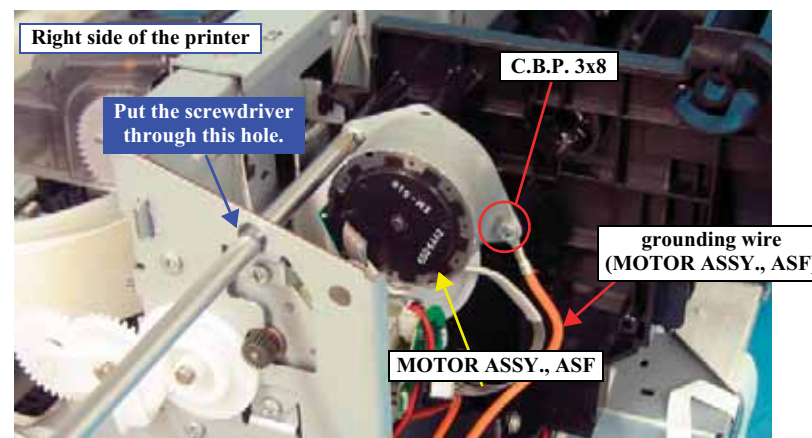

Figure 4-124. Removing the screws from the MOTOR ASSY., ASF
7. Remove the screw that secures the grounding wire of the MOTOR ASSY., ASF and remove the wire. *See Figure 4-124.*